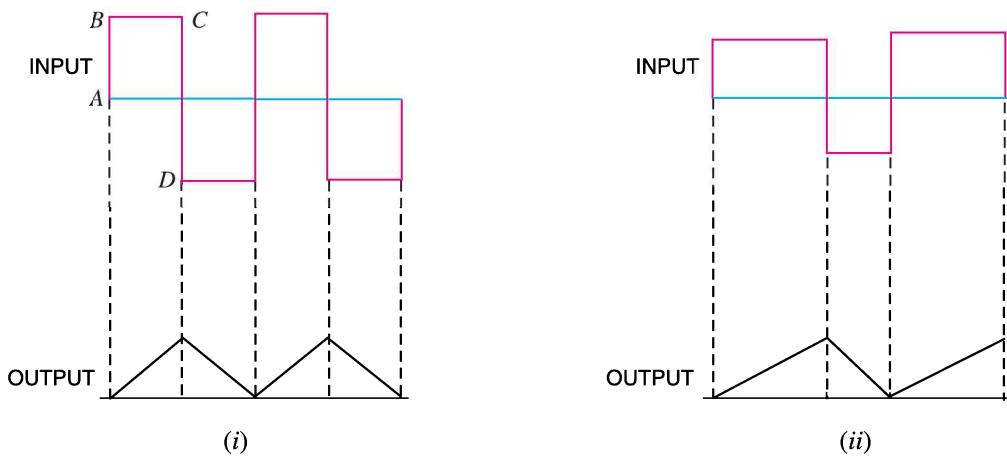

Fig. 18.24
- (i) **When input is a square wave.** When the input fed to an integrating circuit is a square wave, the output will be a triangular wave as shown in Fig. 18.24 (i). As integration means summation, therefore, output from an integrating circuit will be the sum of all the input waves at any instant. This sum is zero at  $A$  and goes on increasing till it becomes maximum at  $C$ . After this, the summation goes on decreasing to the onset of negative movement  $CD$  of the input.
(ii) **When input is rectangular wave.** When the input fed to an integrating circuit is a rectangular wave, the output will be a triangular wave as shown in Fig. 18.24 (ii).